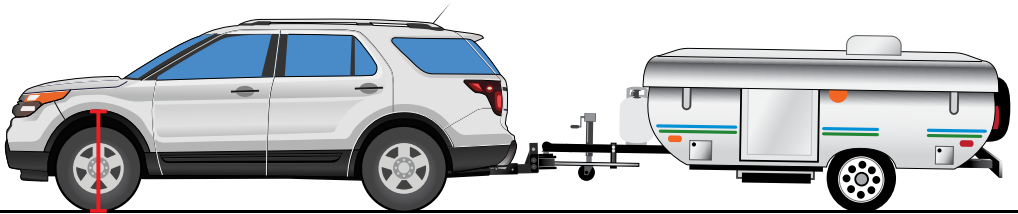
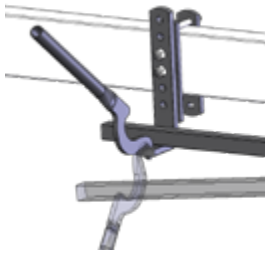
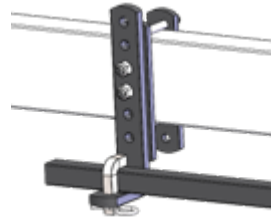

Figure 20
Figure 21
Figure 22
**C** – With the trailer still coupled, use the tongue jack to lift both vehicles until the spring arms can swing onto the L-brackets. (Figure 20) If needed, use the Snap-up lever to lift the spring arms onto the L-brackets. (Figure 21) Insert the L-pins and secure them in place. (Figure 22)